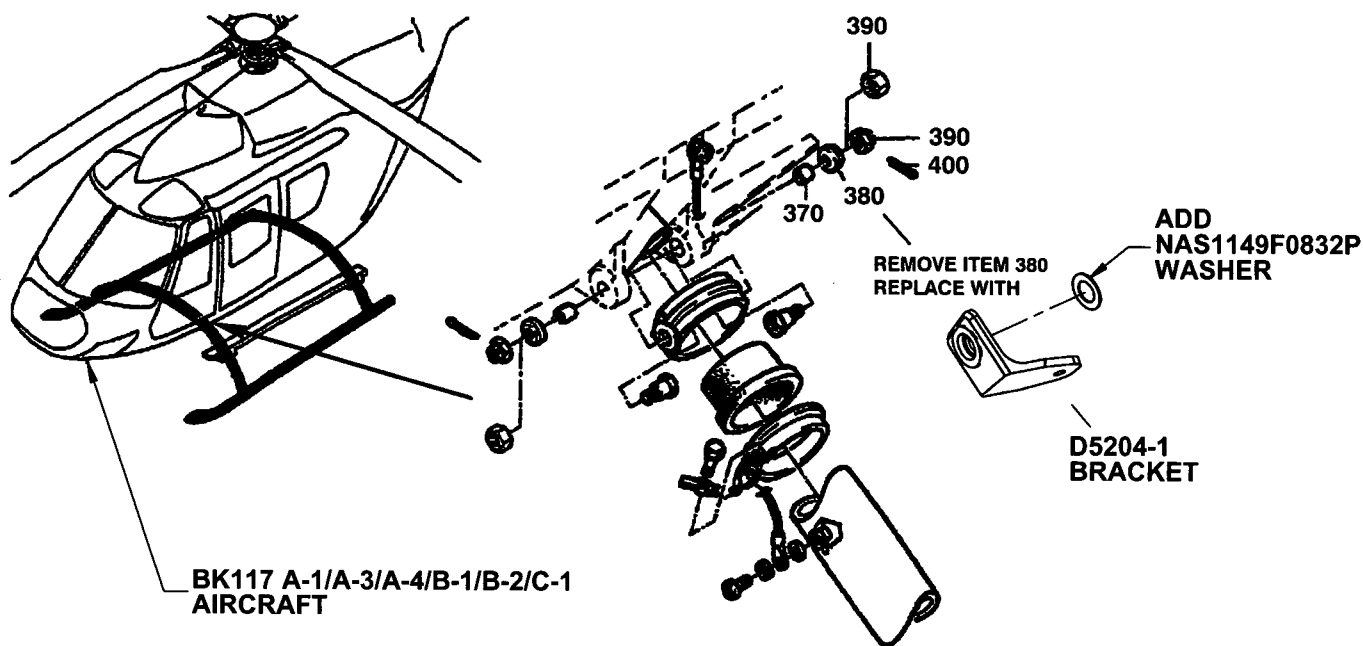

FIGURE 1. D5204-1 BRACKET INSTALLATION
- 3.1 Remove the RH fwd crosstube aft p/n 105-50001.33 stepped washer (item 380) and replace with D5204-1 Bracket and NAS1149F0832P washer. Reinstall nut and torque per Aircraft Maintenance Manual. Reinstall split pin per Figure 1.